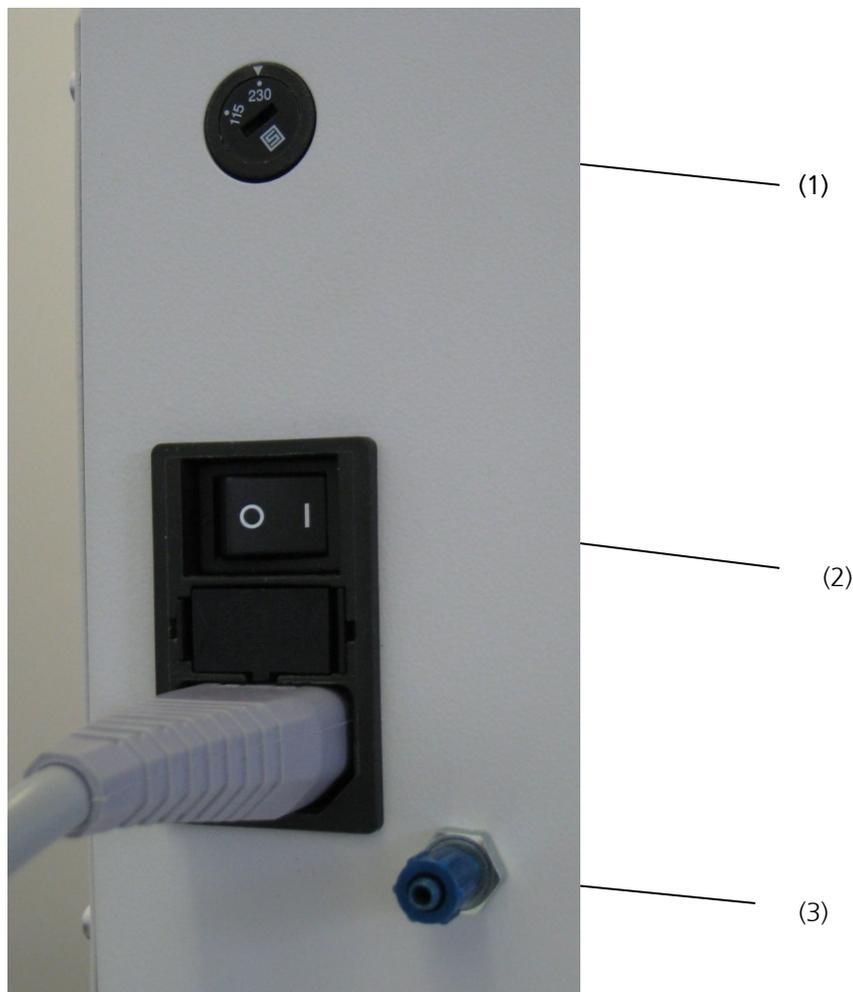

Fig. 3: The power connection
- Remove the nut from the tubing nipple (Fig. 3 (3)).
Switch ON the Scanner 4 by pressing the power switch towards **I**. (Fig. 3 (2))